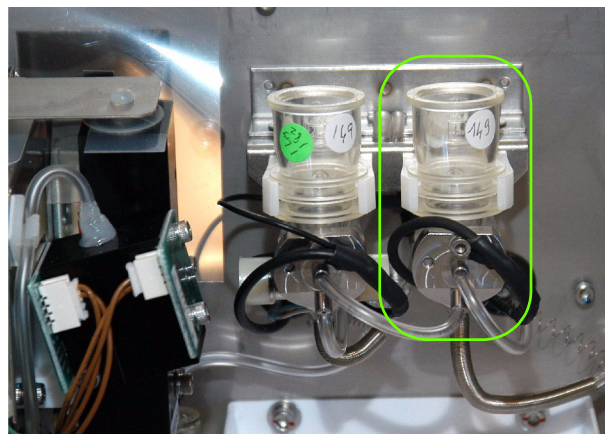

Fig.7: RBC chamber
- ◆ Record the tube positions before dismantling the chambers, then unclip the RBC chamber (See "Fig.7: RBC chamber, page 5").